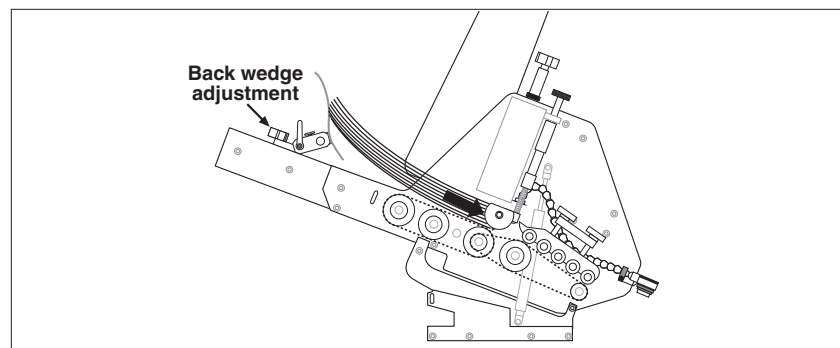

Figure 2-10. Positioning Product Prior to Loosening Back Wedge
2. Place the preshingled material in the hopper so the edges rest against the curvature of the gate assembly (Figure 2-10).
3. Turn the back wedge wing-nut adjustment counterclockwise to loosen the wedge (Figure 2-10).